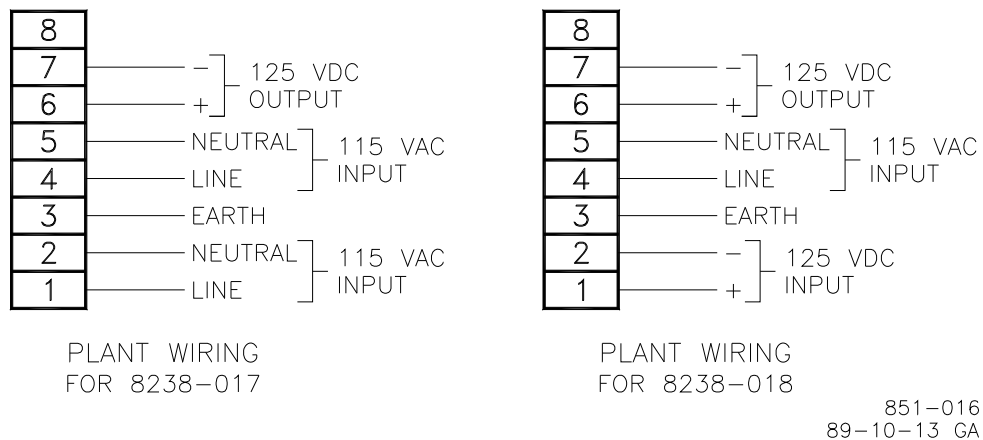

Figure 2. Wiring Diagram
10. Before applying power to the Dual Power Source, compare the wiring to the wiring diagram (Figure 2).